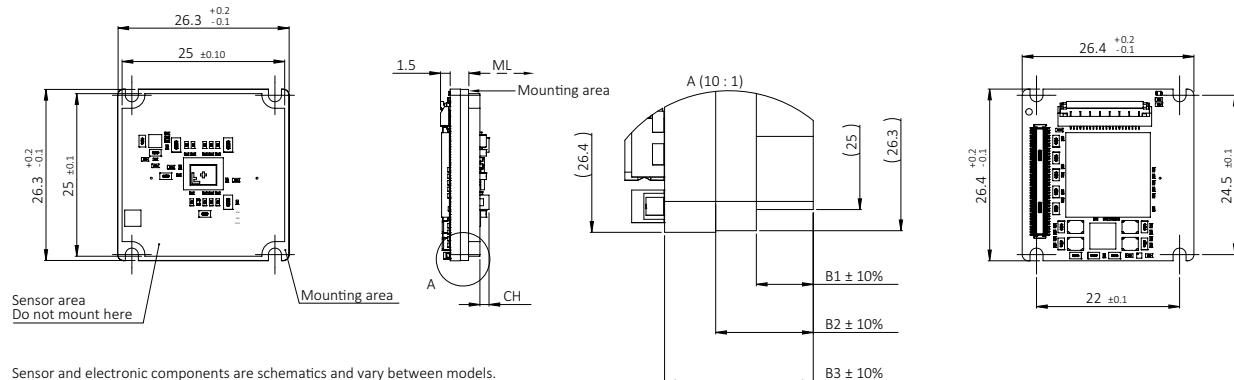

Figure 51: Bare Board dimensions
Dimensions that are common between different models are shown in Figure 51, model specific dimensions are listed in Table 68. **Mechanical length** (ML) defines the mechanical distance from the mounting area to the lens mount front flange, without optical filter. **Components height** (CH) relates to the electronic components with maximum height, sometimes the sensor.